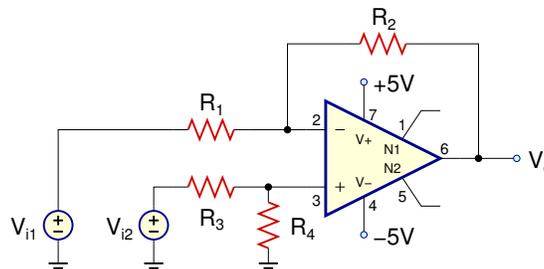

Figure 2: Differential amplifier circuit
The differential amplifier is designed to amplify the difference of the two inputs. The simplest configuration is shown in Fig. 2. If the resistor values are chosen such that  $R_2/R_1 = R_4/R_3$ , then the output of the amplifier is given by:
2. For the differential amplifier in Fig. 2, find  $R_1$  to have  $V_o = V_{i2} - V_{i1}$ , if  $R_2 = R_3 = R_4 = 10k\Omega$ .
1. Build the circuit in Fig. 2 with the simulated component values.
3. For the differential amplifier in Fig. 2: